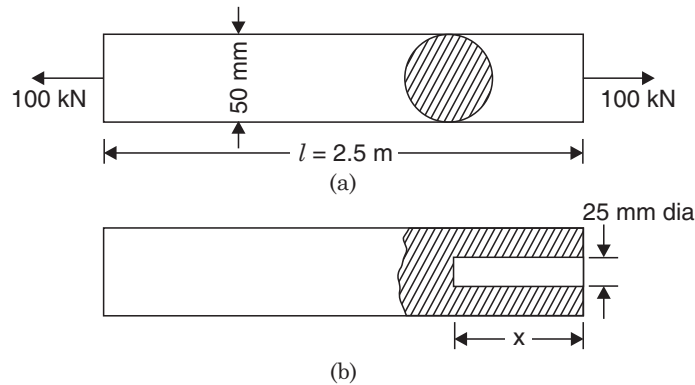

Fig. 12.16
**Sol.** Refer to Fig. 12.16 (a), (b)